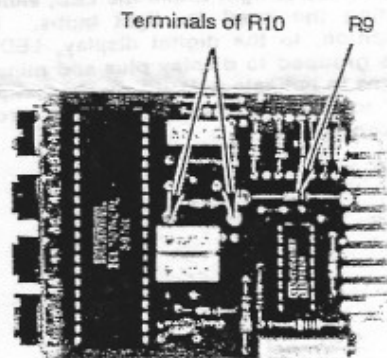

Figure 5. Component Location
- Observe resistor values that are in unit and compare to figure 5 and table II below. Install values of resistors as specified in table II to attain desired range.